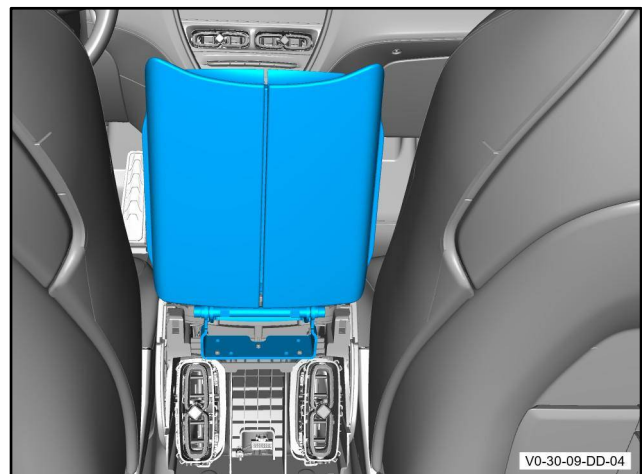

Figure 31
22. Put the centre console armrest lid into position (refer to Figure 31).